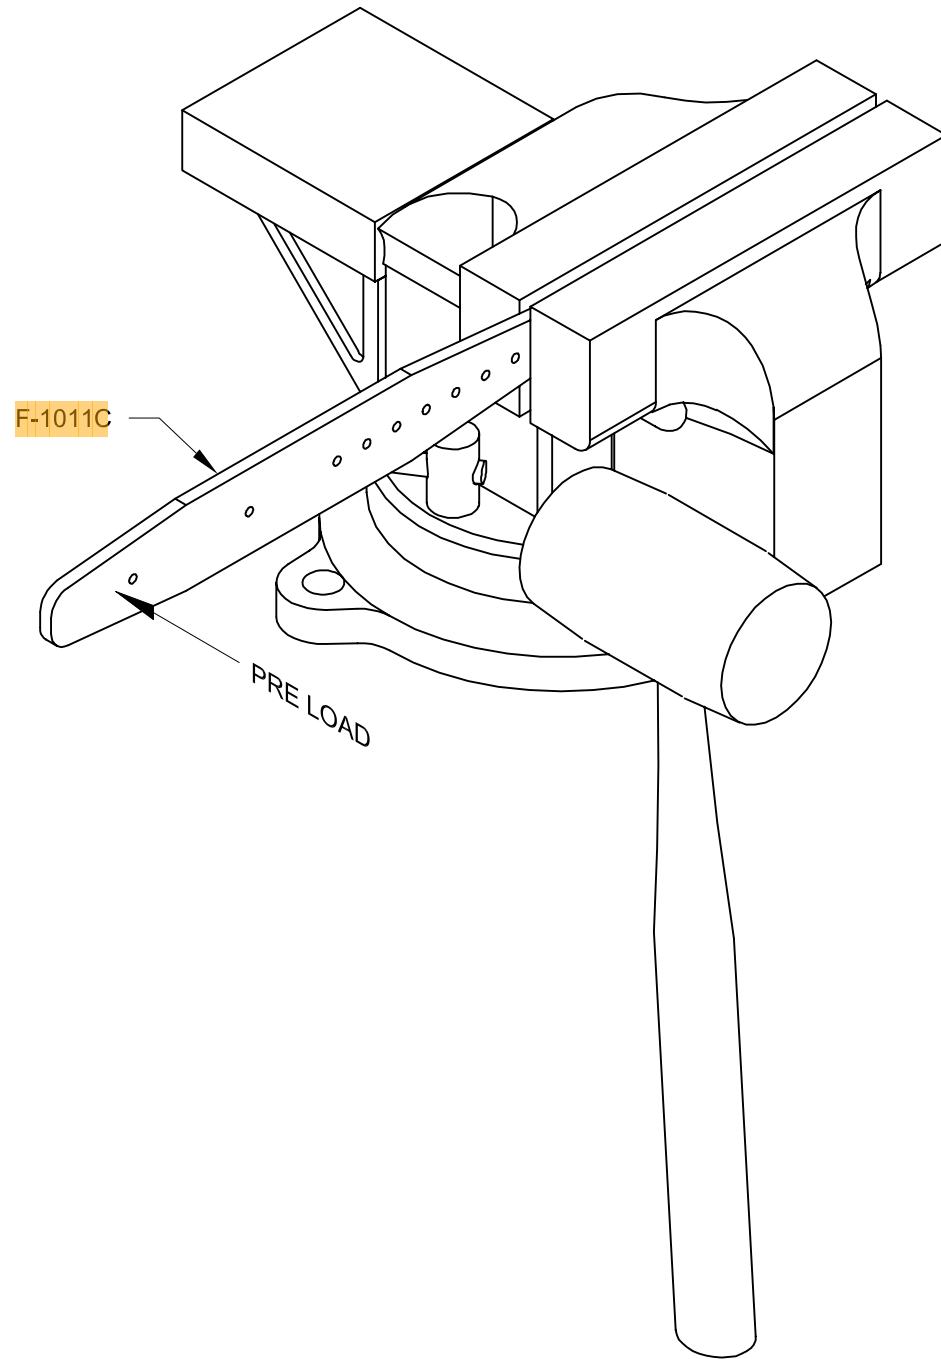

**FIGURE 5: 1011A BULKHEAD STIFFENER**
Step 6: Cut the **F-1011A** Bulkhead Stiffener, using the dimension shown in Figure 5, from one of the six foot lengths of J-channel provided in the kit. Deburr the edges.